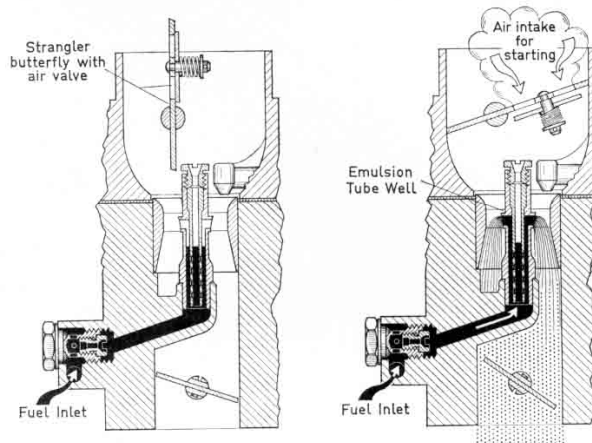

Fig. 14 Strangler Butterfly with Air Valve
a) Strangler Butterfly with Air Valve (Fig. 14)